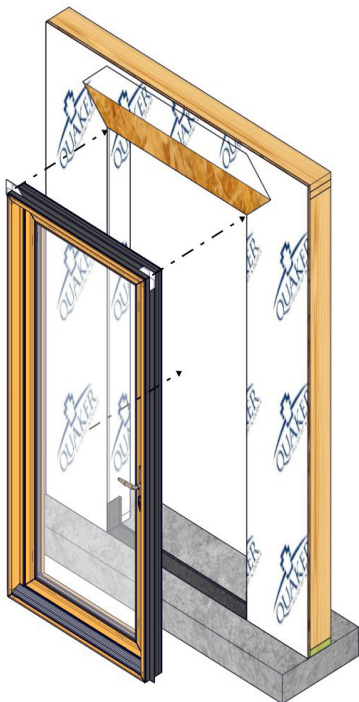

Fig. 8
**Note: DO NOT nail or fasten through the position fin.** (Fig. 8)